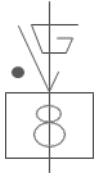

Figure 1
- Low torque: “dot” on the **left side** of the “V” (figure 1)